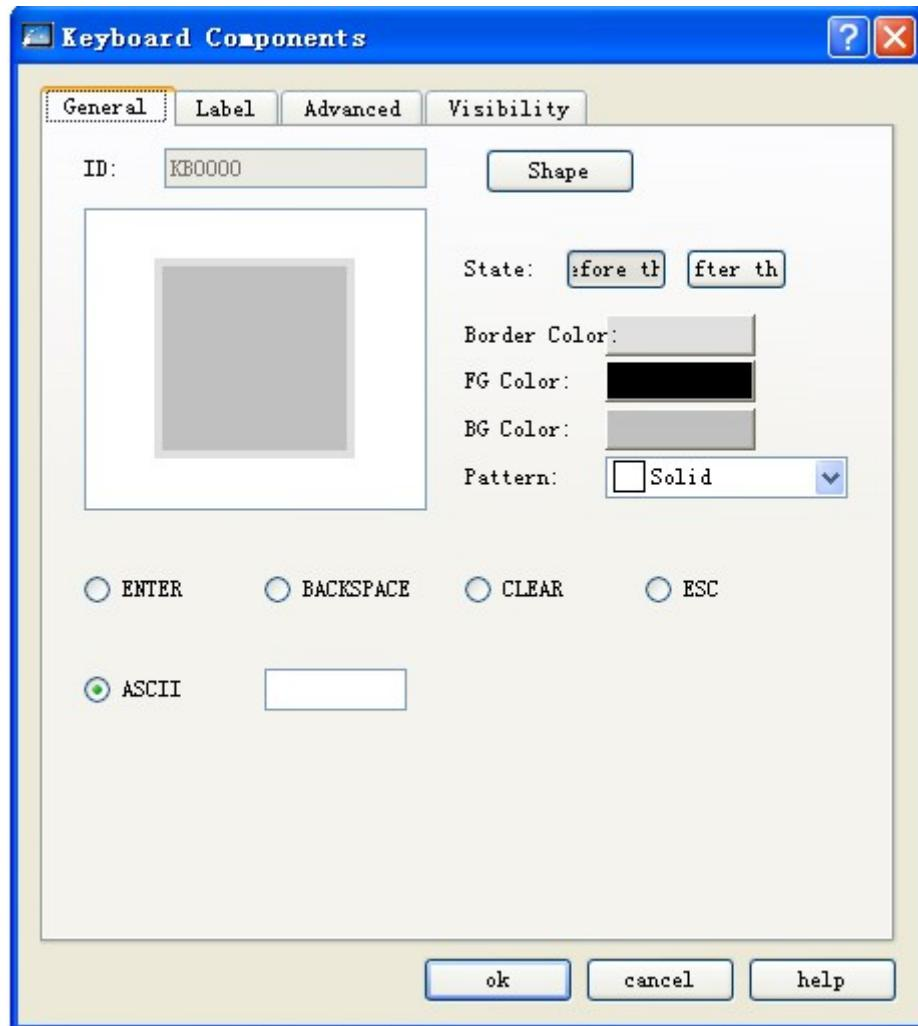

Figure 4-128: General tab of keyboard element
- Keyboard element: This control is used for user-defined keyboard to form each button of the keyboard. The icon of this control in the toolbar is . Click this icon, and then a dialog as shown in Figure 4-128 will pop up: